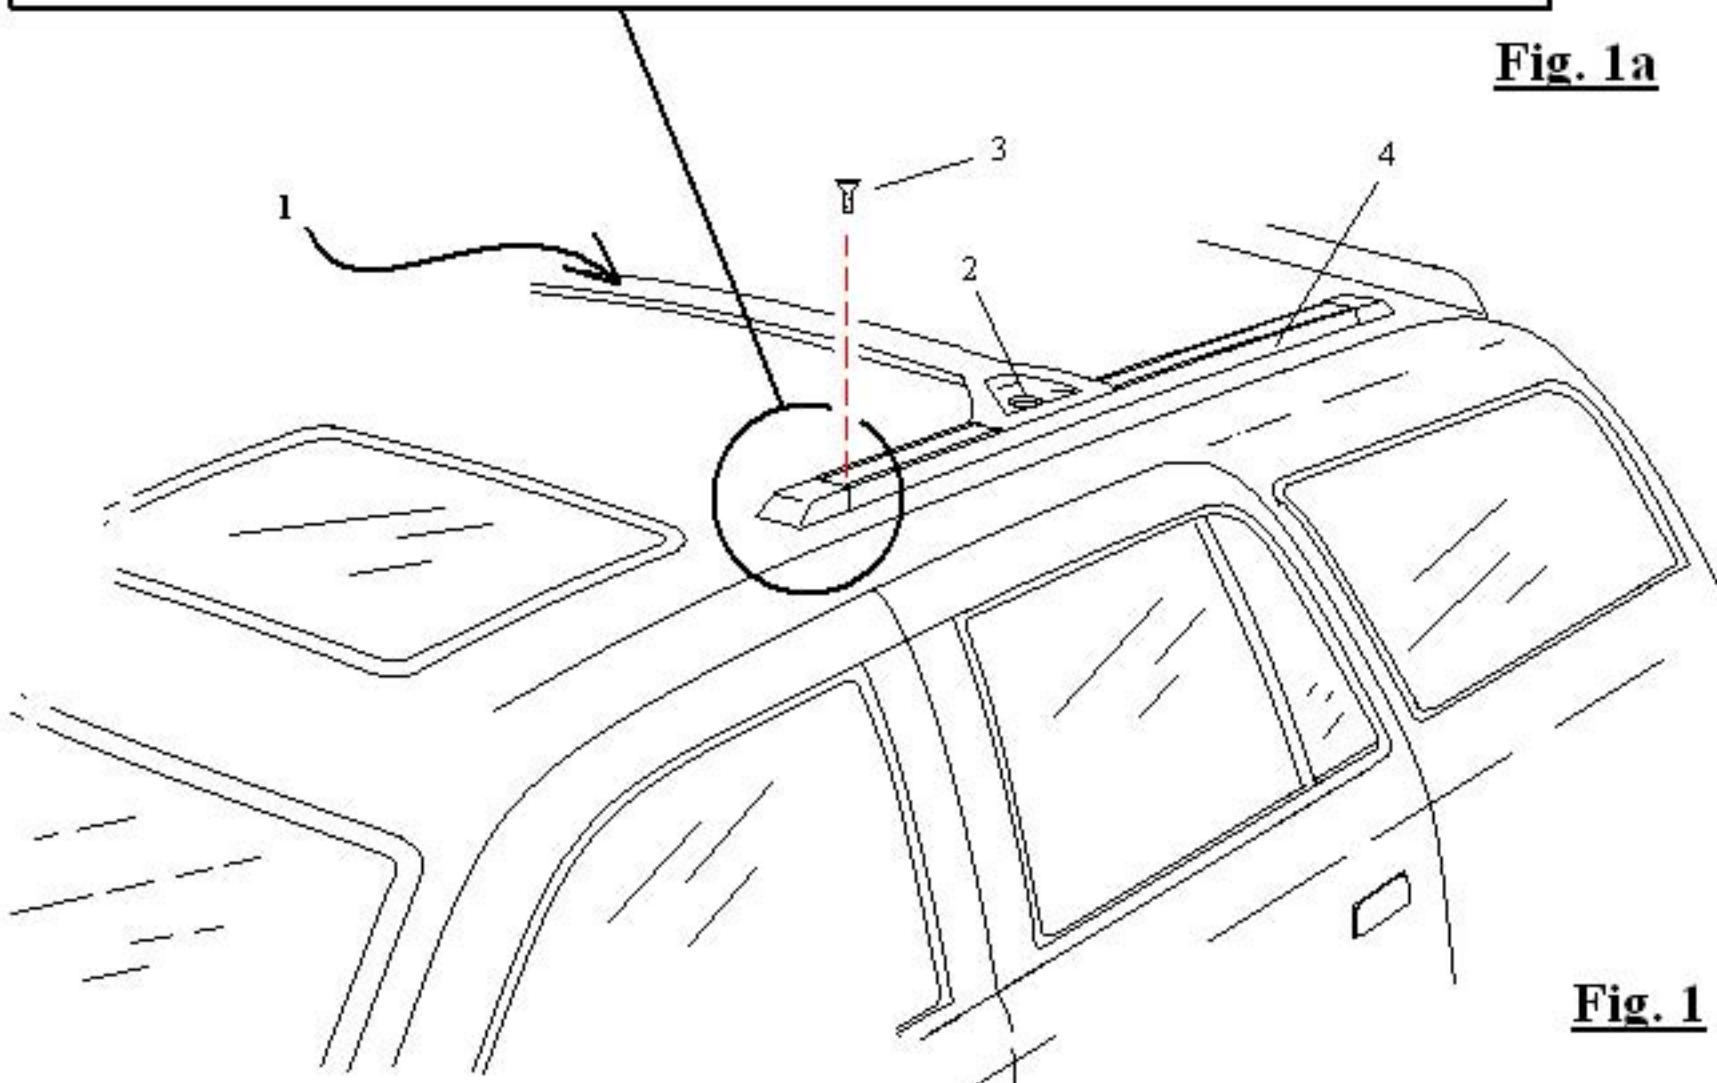

Fig. 1
- 2- Refer to page 5 Fig. 1 and remove screws (#3) located at the end of each roof rail track (#4) both passenger and driver side using the Torx T-25 wrench located in Bag # 3 of your hardware kit.
- 3- Refer to page 5 Fig. 1 a remove all 4 roof rail end caps (#5) by lifting slightly on screw tab "A" and pulling in the direction of arrow "B". After all roof rail end caps #5 have been removed slide out OEM/original equipment cross bars (#1) as they are no longer needed. Continue by sliding "T" nuts (#6) located in Bag # 3 into roof rail ends as shown in Fig 1 a one into each end of both roof rail tracks then replace all 4 (#5) end caps and (#3) screws and tighten using the Torx wrench T-25.